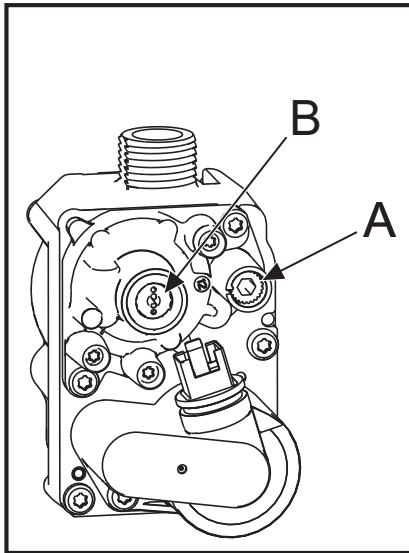

fig. 31 - Gas valve
3. Now adjust the **Throttle setting** (fig. 31 - screw **A**) until the CO₂ is at the correct **SETTING LEVEL** (see table 4), confirm that the CO/CO₂ ratio is within limits (clockwise to increase gas).
2. Now adjust the **offset pressure setting** (fig. 31 - cup **B**) until the CO₂ is at the correct **SETTING LEVEL** (see table 5), confirm that the CO/CO₂ ratio is within limits (clockwise to increase gas).